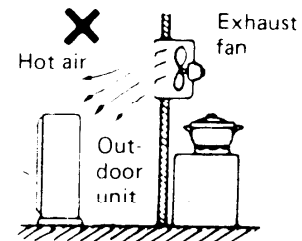

Fig. 3
- heat sources, exhaust fans, etc. Fig. 3.